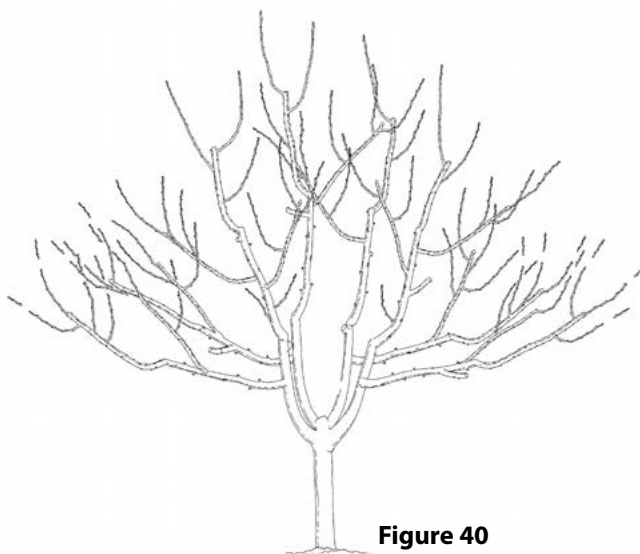

Figure 40
- On less productive SL trees, tip and remove up to a third of the new growth of only those lateral branches you can reach while standing on the ground. This will invigorate the bottom of the tree and stimulate new growth in an area otherwise difficult to re-invigorate (Figure 40).